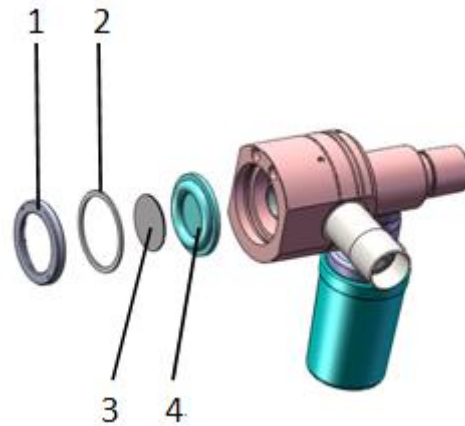

Figure 8-9
- j. Remove the safety valve cover (1 in Figure 8-9) and the gasket (2 in Figure 8-9);
- k. Remove the scale board (3 in Figure 8-9) and the diaphragm (4 in Figure 8-9);